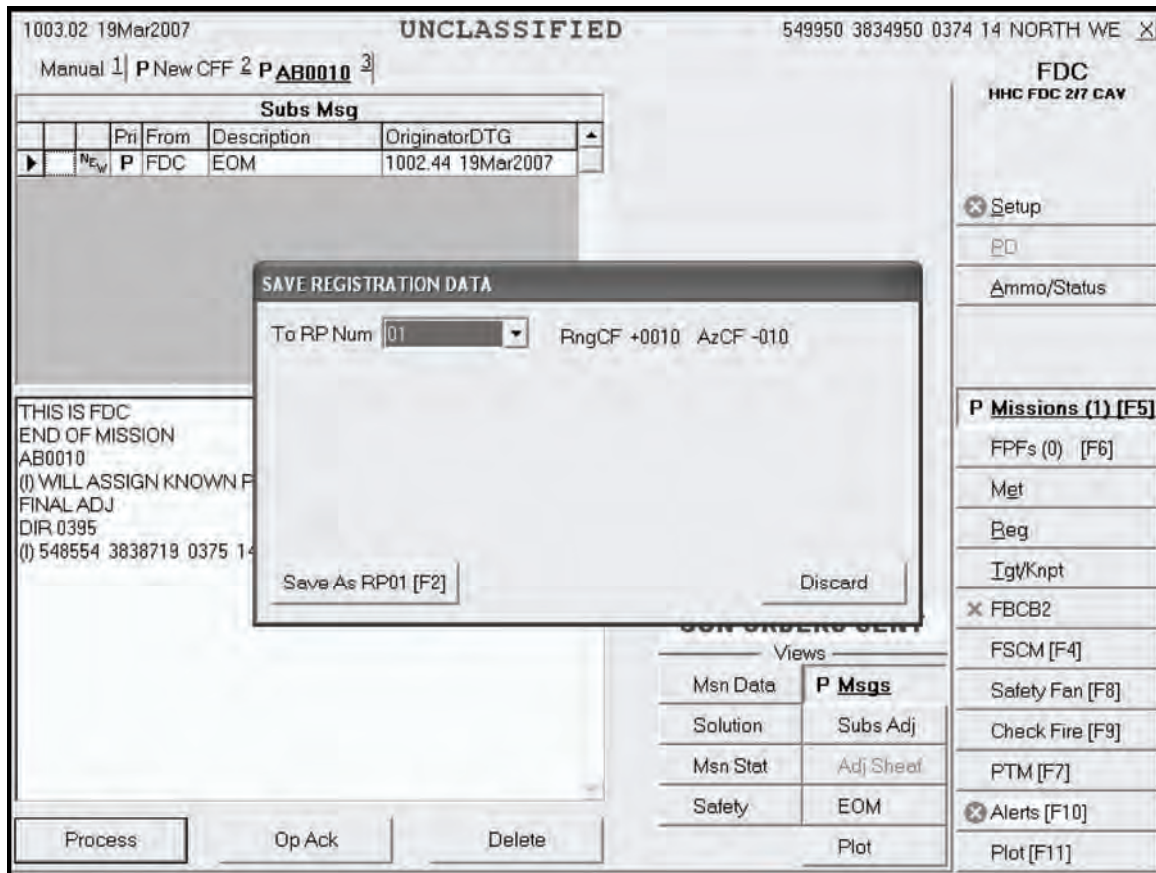

Figure 16-16. Save Registration screen.
- To record the RP number, the operator selects the RP number and then selects the Save As RP button when the Save Registration Data box is displayed (Figure 16-16). The range and azimuth correction factors are also displayed.